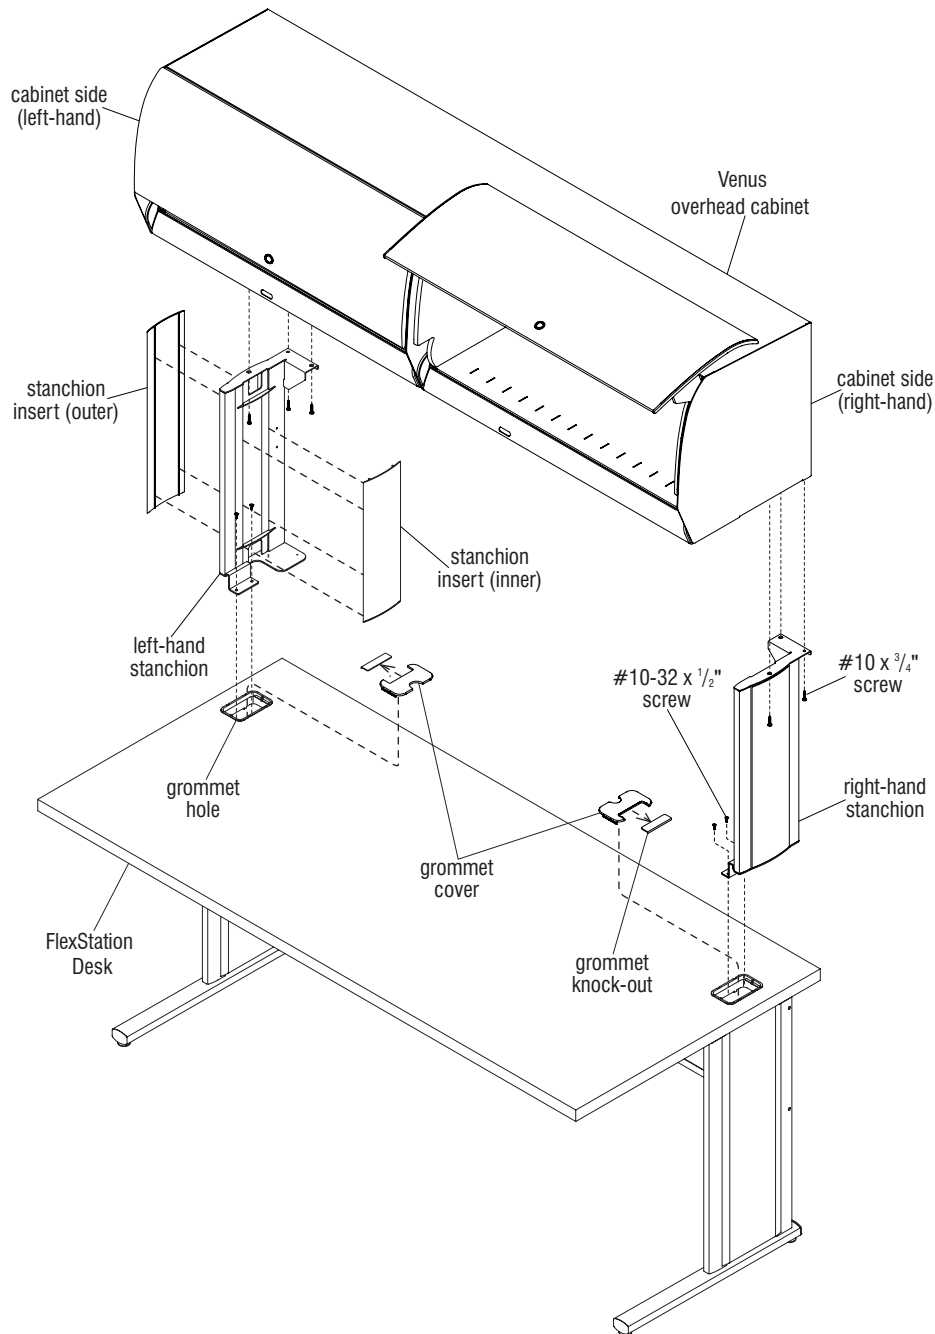

Figure 1
1. Begin by removing grommet covers from the back sides at the top of the desk where the overhead cabinet will install (Figure 1).
2. Reference Figure 1 below to identify the left- and right-hand stanchions, as well as the left- and right-hand cabinet sides. One side of the desk at a time, position the appropriate stanchion as illustrated such that the lower mounting bracket of the stanchion inserts into the grommet hole. Align the mounting holes in the bracket with the holes in the top of the leg and secure using two #10-32 x 1/2" screws (Figure 1).
3. Carefully set the Venus overhead cabinet onto the two installed stanchions. Align the two sets of three mounting holes at the top of each stanchion and those under each side of the cabinet, secure using three #10 x 3/4" screws at each side (Figure 1).
4. Take grommets removed in step one and remove the knock-outs from each. Snap the grommets back into place in the grommet hole at the installed stanchions (Figure 1).